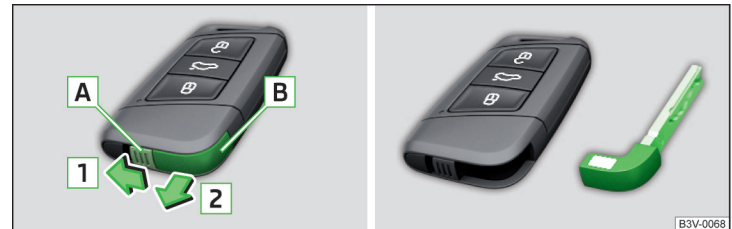

Fig. 31 KESSY key
- Remove retainer tabs A in the direction of arrow 1 » Fig. 31.